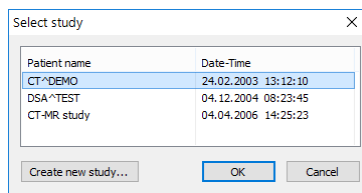

Figure 409 – Select study dialog
1. Select the existing study for the insertion of the new series from the studies list in the **Select study** dialog (see Figure 409).